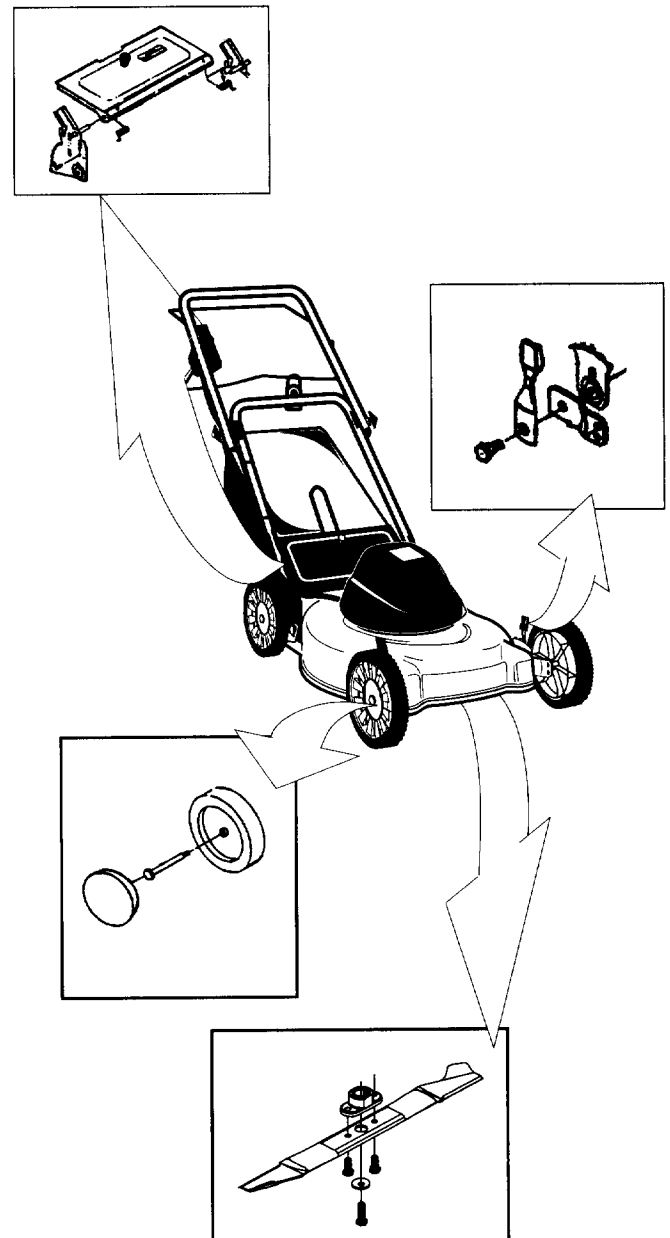

Figure 14 -- Lubrication Chart
- Keep unit well lubricated. Lubricate the springs on the rear discharge door with a light oil. See figure 14.
- Lubricate the bolts holding the height adjustment lever to the deck with a light oil. See figure 14.
- surface of the wheel with light oil. See figure 14.
- If you are reassembling the blade and the blade adapter to the unit, lubricate the motor shaft and the inner surface of the blade adapter with light oil (or engine oil). See figure 14.
- Also lubricate the bolt holes, bolts and inner surface of the nuts in the blade adapter assembly before reassembly. See figure 14.